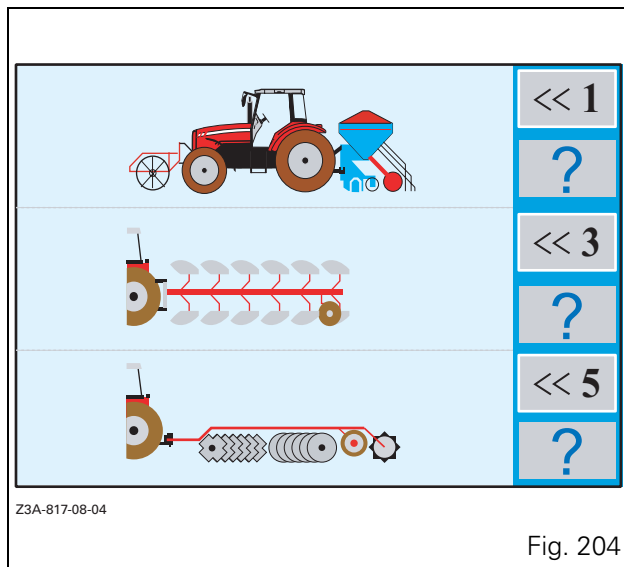
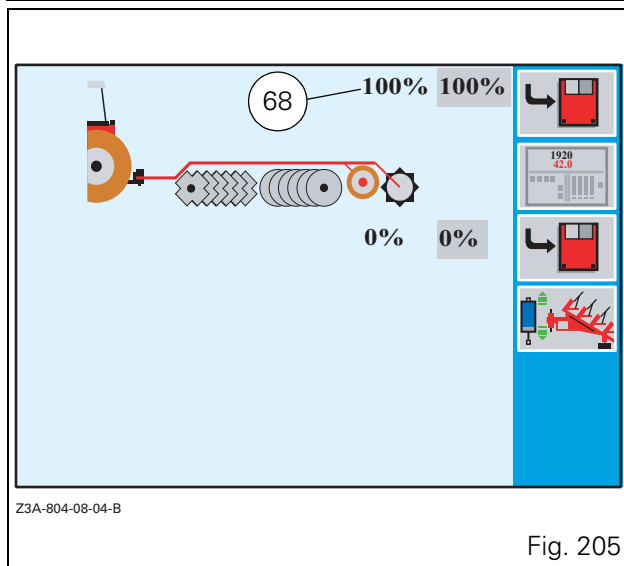

Fig. 204
Fig. 205
When the window (Fig. 204) is open, press the key <<5. The window (Fig. 205) is displayed.
When the spool valve control is actuated, the high position value varies (68 Fig. 205).
- For this, press the key \llcorner_3 when the window (Fig. 205) is open. The window (Fig. 208) is displayed.
To return to the window (Fig. 205), press the key <<5 when the window (Fig. 209) is open and the icon (71 Fig. 209) is green.